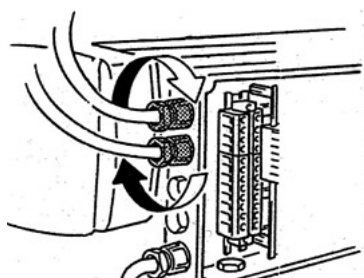

fig.39
7. Tighten the two cable glands fully. (fig.39)